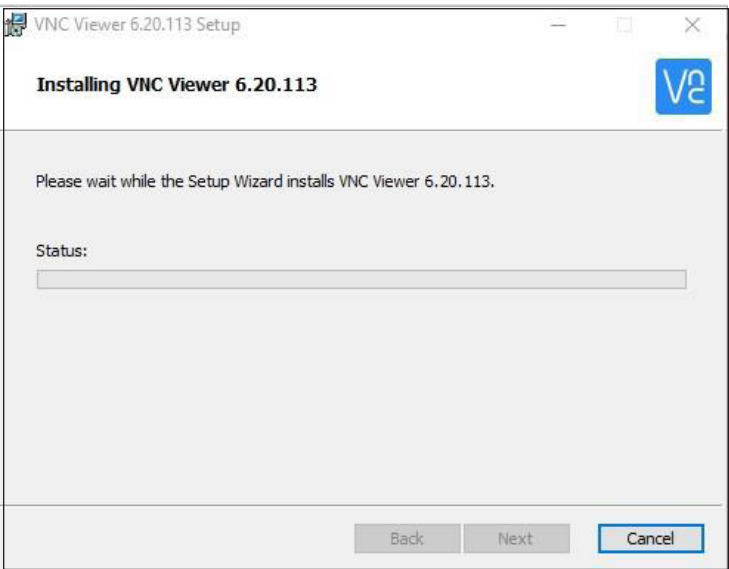

Figure 84. Install VNC Viewer
- 1. Download and install the VNC Viewer from VNC Connect/Real VNC (*Figure 84*): <https://www.realvnc.com/en/connect/download/viewer>.